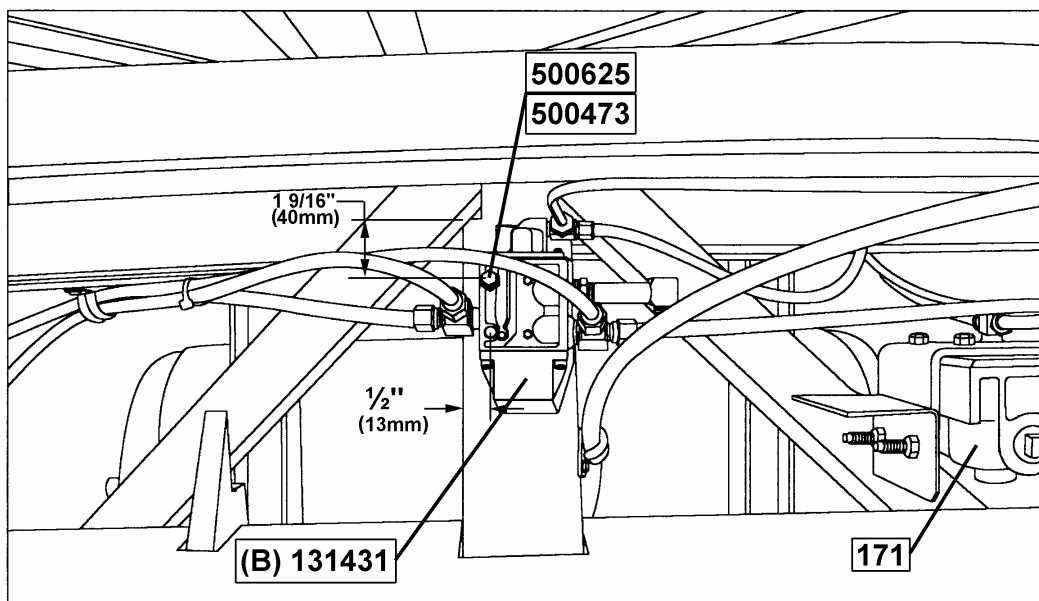

FIGURE 7 : TAG AXLE LIFTING VALVE LOCATION
5. Drill two 15/64" (6mm) holes to secure tag axle lifting valve (Prévost #131431) to the pillar. Use two self tapping screws (Prévost #500625) and two lock washers (Prévost #500473) (refer to figure 7 for location of holes).